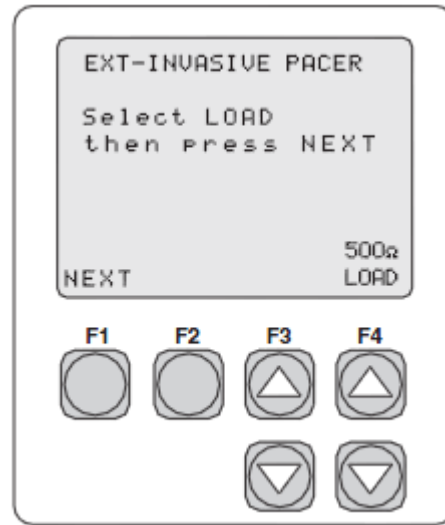

Figure 2
- Depress “F1” (NEXT) to accept a 500 Ohm load for both A and V tests. Figure 2